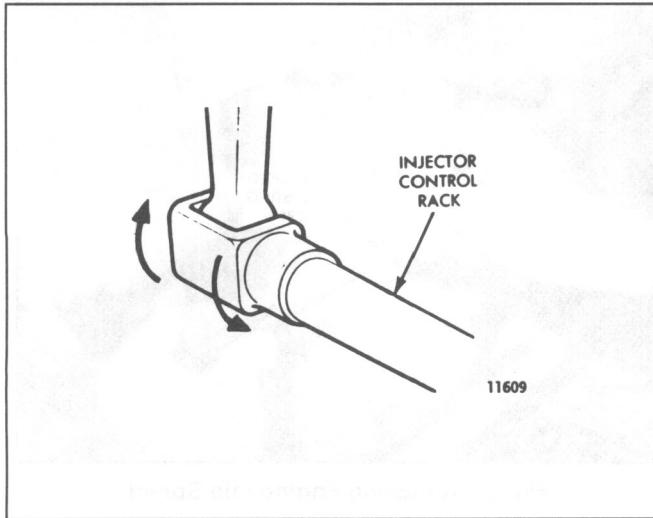
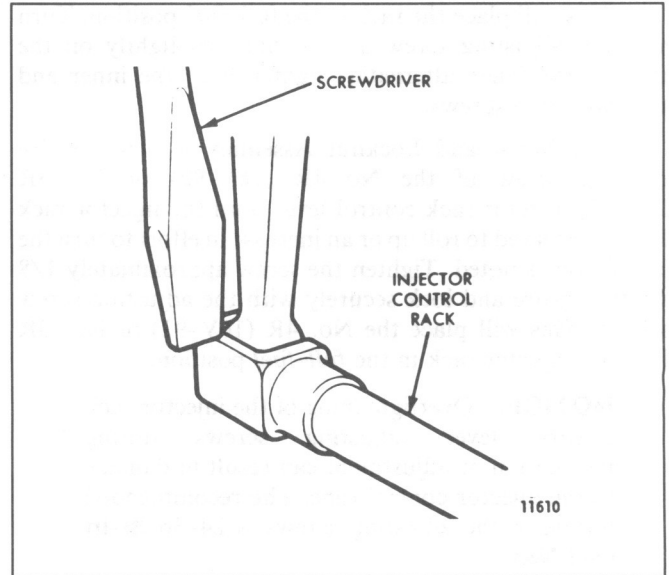

Fig. 5 - Checking Rotating Movement of Injector Control Rack
Fig. 6 - Checking Injector Control Rack "Spring"
- To be sure of the proper rack adjustment, hold the speed control lever in the *maximum speed* position and press down on the injector rack with a screwdriver or finger tip and note the “rotating” movement of the injector control rack (Fig. 5). Hold the speed control lever in the *maximum speed* position and, using a screwdriver, press downward on the injector control rack. The rack should tilt downward (Fig. 6) and, when the pressure of the screwdriver is released, the control rack should “spring” back upward.